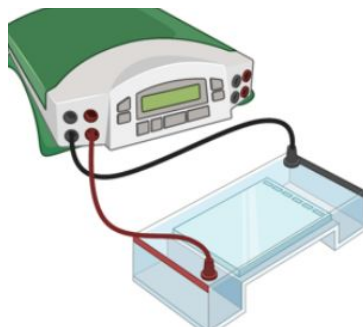

Figure 4. Gel connected to power supply [3]
- Make sure the gel is connected to the power supply properly (Figure 4)